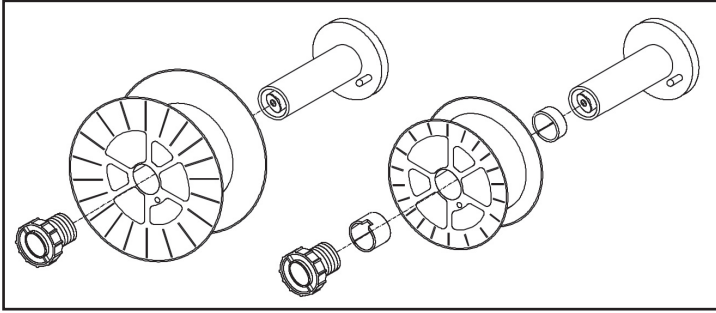

Figure 2 - Spool Assembly
- Mount the spacer as shown in the Figure 2 if required for the spool to be installed.